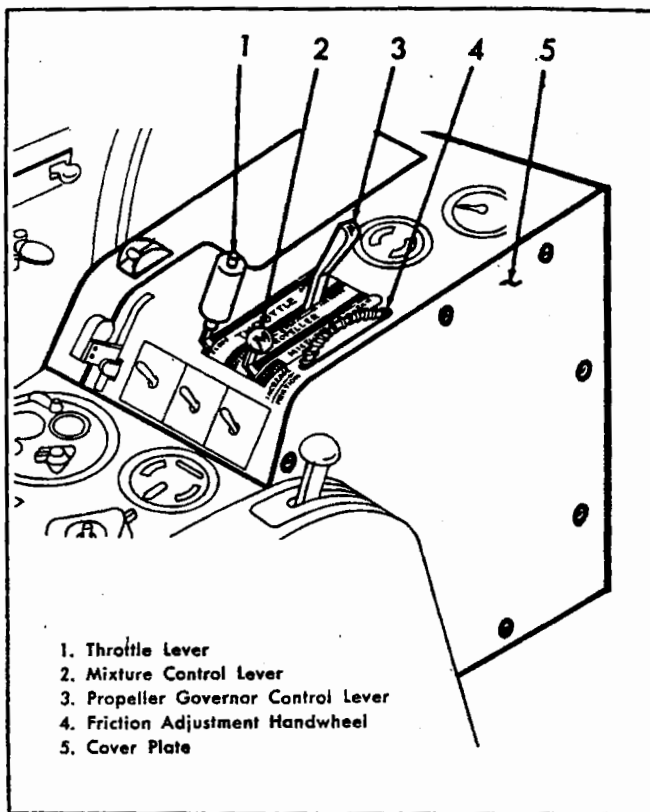

Figure 4-73. Engine Control Unit
4-606. DESCRIPTION. (See figure 4-73.) The engine control unit (manufactured by the Aero Supply Mfg. Co., Inc. of Corry, Pa., their drawing number 74604), located on the left hand console at station 160, carries three engine control levers which govern engine operation. They are the throttle (16), mixture (17) and propeller governor control (15) handles identified by letters and operating positions. A friction knob is provided on the inboard side of the unit for the purpose of preventing the control levers from creeping. The throttle positions indicated on the unit are "CLOSE" and "OPEN", those for the mixture control lever are "IDLE CUT-OFF," "NORMAL," and "RICH," and for the propeller governor control lever, "DECREASE" and "INCREASE" rpm. The engine control unit is secured to a bracket in the left hand shelf and to the fuselage structure. Three switchettes are incorporated in the engine control unit. One switchette is actuated by the propeller governor control lever and closes when engine speed is governed at and below 2300 rpm. When this switch is closed, the automatic cowl flap controller is reset to open the cowl flaps when the cylinder head temperature exceeds 232°C (450°F) and the intercooler flap is closed. The second switchette is operated by the throttle control lever and actuates the water injection system during combat power conditions, providing the master water injection switch is "ON." A third switchette, located in the engine control unit, is operated by the wing flap control